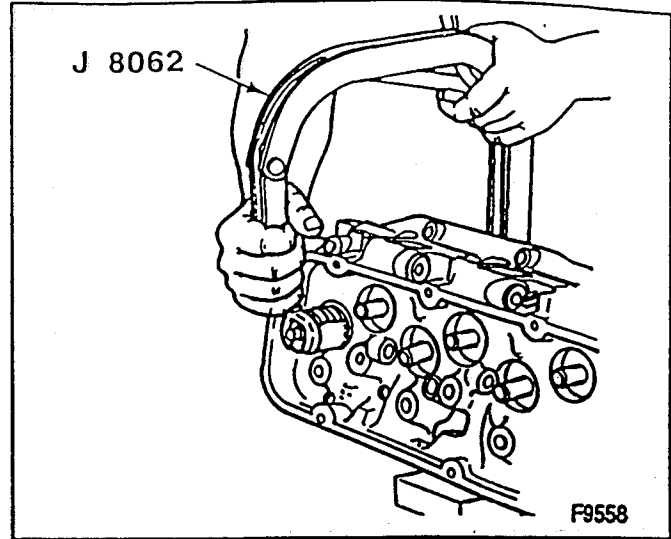

Figure 57—Compressing the Valve Springs
1. Valve keepers (251).
- A. Compress the springs (256) with J 8062 (figure 57).
- B. Remove the valve keepers (251).
2. Caps (253), shields (255), springs with dampers (256), and rotators (254).
3. O-ring seals (252) (if used) and seals (257).
2. Rotators (254).
3. Seals (257).
4. Valve springs with dampers (256).
- A. Compress the valve spring using J 8062 (figure 57). Compress the spring until the valve stem groove can be seen.